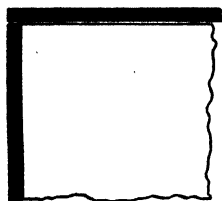
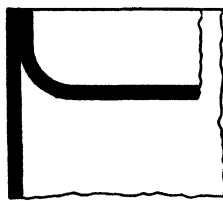
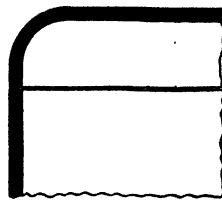

Fig. 55. Head Weld for Storage Tanks
Fig. 56. Head Weld for Storage and Medium-Pressure Tanks
Fig. 57. Head Weld for Pressure Tanks
**Storage Tanks.** If the tank is to be used as a storage receptacle, such as gasoline tanks, the heads can be cut to the outside diameter of the shell, laid flat on the end of the shell and tacked at intervals all the way around, Fig. 55. Then the shell, with the heads securely tacked in place, is laid on its side and the welding is started at any point, the tank being turned, from time to time, as the welding progresses. Or, the heads can be flanged to any depth desired, and backed into the shell until the edge of the flange and the edge of the shell are even, Fig. 56, making sure that the head fits the shell snugly. They are then tacked and welded in an upright position. This latter method is the better of the two from the welding standpoint.
this. The heads can be either backed in and an edge weld made, Fig. 56, or set up so that the edges of the flange exactly meet the edges of the shell, Fig. 57. In either case the parts should be tacked together before welding. In the second case, care should be used in flanging to have the outside diameter of the flange exactly the same as the outside diameter of the shell. This method is the best because the weld is under direct tension or straight pull.